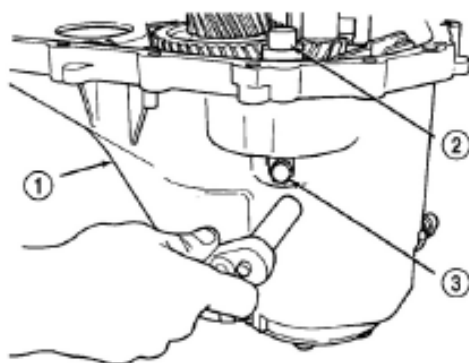

Figure 3-41 Reverse gear shaft
(9) Screw off bolts for reverse gear shaft (Figure 3-41).